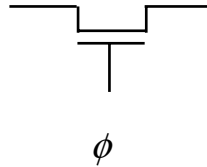

Figure Q2
- Q.2 Consider a single transistor version of a transmission gate shown in Figure Q2. The input to this gate at drain is driven by an inverter on the left and the output is taken at the right terminal of the device. Clock ϕ is connected to the gate of this device.
In this part of the question, use dotted sheet provided and colour pencils to draw a custom layout of the transmission gate shown in Figure Q2 along with the inverter on the left with built in ease to route and power lines. Obey all λ based design rules. Use a scale of 2λ = spacing between dots and conform to standard colour codes. The standard colour codes are brown for n-well, black for contact, blue for the only metal layer, red for polysilicon, green for n-type source-drain (NSD) and purple for p-type source-drain (PSD). Choose device dimensions of $W = 4\lambda$ and $L = 2\lambda$ for all devices. In the λ based design rules, the n-well coverage of PSD is 3λ , the unconnected PSD-NSD spacing is 8λ , the minimum dimension/spacing of metal, poly, NSD, PSD and contact is 2λ , the coverage of contact by connecting layers is λ on all sides, the poly extension beyond NSD/PSD is 2λ and poly to NSD/PSD contact spacing is 2λ .